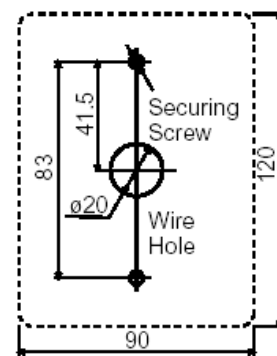

fig.1
2. Drill 3 holes in the wall as shown in fig. 1, one for the cable and two for the securing screws. Ensure holes are drilled deep enough. Fit wall plugs if needed. (ensure controller is level.)
2. Remove the front cover from the Appliance (4 screws) fig. 1.
2. Remove the front cover from the Appliance (4 screws) fig.1.